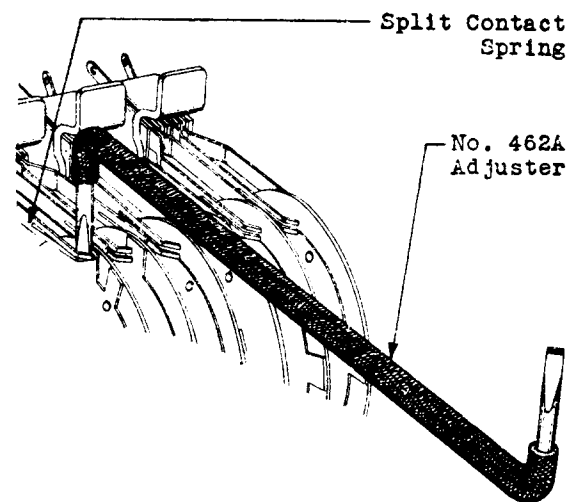

Fig. 18 – Method of Adjusting Prongs
(5) If, after adjusting the contact spring pressure on a split contact spring, both prongs of the spring do not leave a cam cutting approximately simultaneously when the sequence switch is rotated slowly, correct the misalignment by adjusting the tips of the contact spring with the No. 462A adjuster as shown in Fig. 18. Adjust the prongs so that the angle at which the tips of the springs make contact with the cam is approximately 45 degrees. The slots in the adjuster are at an angle of 45 degrees to the cam when the handle of the adjuster is parallel to the cam. In adjusting an inner prong, move the spring adjuster on the inner prong as shown in Fig. 18.